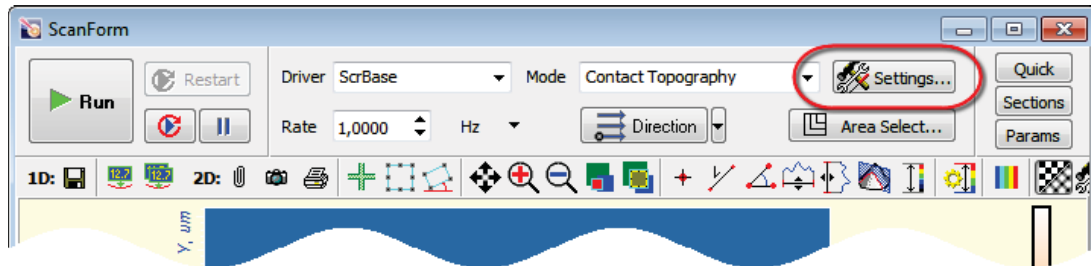

Fig. 1-15. **Settings** button
- a. Open the **ScanSettings** window by clicking the  button (Fig. 1-15) of the scanning window.